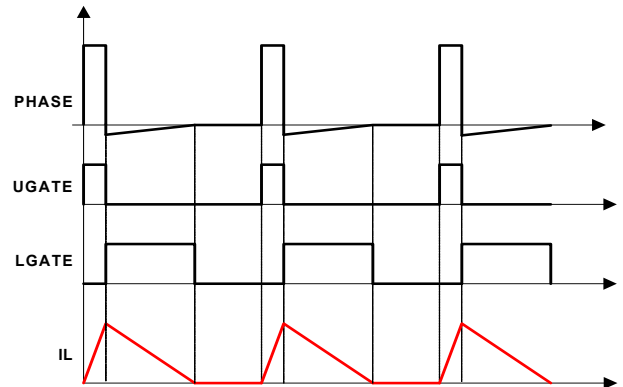

FIGURE 37. DIODE EMULATION
The R3 modulator can operate in diode emulation (DE) mode to increase light-load efficiency. In DE mode, the low-side MOSFET conducts when the current is flowing from source-to-drain and does not allow reverse current, emulating a diode. As shown in Figure 37, when LGATE is on, the low-side MOSFET carries current, creating negative voltage on the phase node due to the voltage drop across the ON-resistance. The IC monitors the current by monitoring the phase node voltage. It turns off LGATE when the phase node voltage reaches zero to prevent the inductor current from reversing the direction and creating unnecessary power loss.
If the load current is light enough, as Figure 37 shows, the inductor current reaches and stays at zero before the next phase node pulse and the regulator is in Discontinuous Conduction Mode (DCM). If the load current is heavy enough, the inductor current never reaches 0A and the regulator is in CCM although the controller is in DE mode.